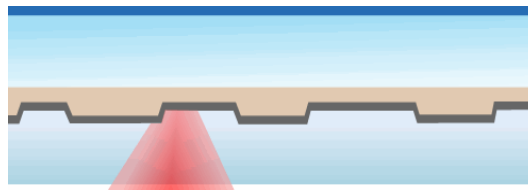

Figure 2 DVD-5 Disc
**DVD-5** discs comprise a sandwich of two 0.6mm substrates (see Figure 2), one metallised and with data, the other blank, bonded together. The data is read from one side only so that labels can be printed on the top surface of the disc as for CDs.